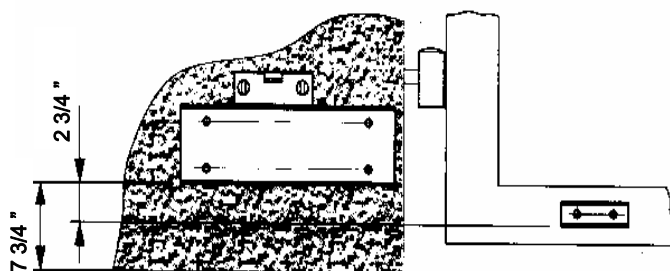

Figure 4. Operator Position
- \* Secure the base plate to the column and check to see if it is level. Figure 4.